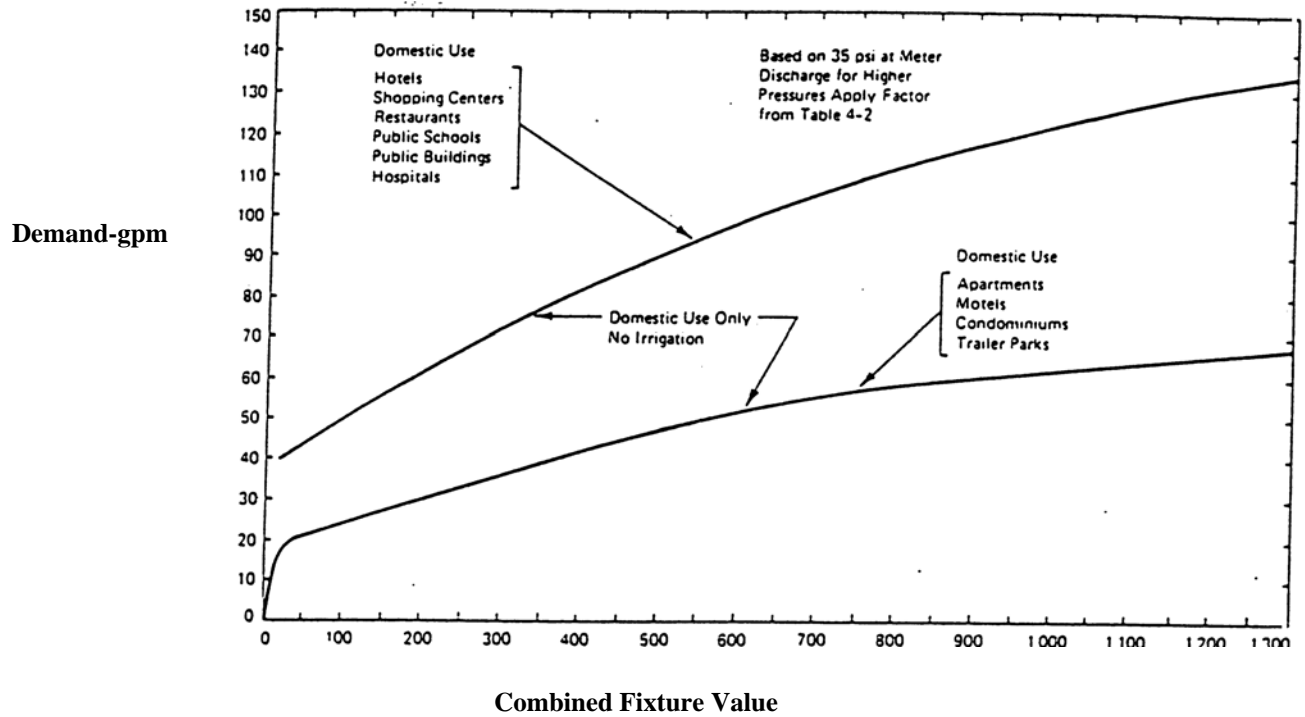

Fig. 4.4 Water-Flow Demand per Fixture Value-Low Range
**Figure 4.4 and Figure 4.5**
*MULTIPLICATION FACTORS TO ADJUST DEMAND LEAD AS OBTAINED FROM TEJ CURVES IN FIGS. 4.4 OR 4.5 TO VARIOUS UTILITY DELIVERY PRESSURES AT THE METER OUTLET*